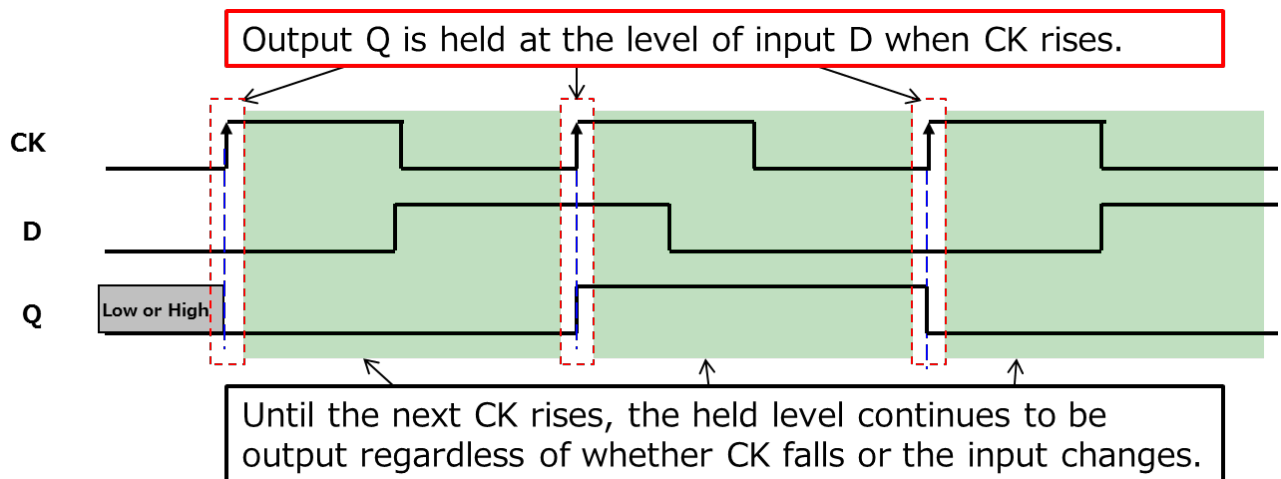

Figure 2.34 Timing chart and output image
In the case of a product composed of an input (D), a clock (CK), and an output (Q), the input (D) is held and the same signal is output when the clock (CK) rises. Until the next rise edge of clock (CK) input, output (Q) does not change even if input (D) changes. When the clock (CK) is not rising, the input (D) held by the immediately preceding rising clock (CK) continues to be output. Shown in Figure 2.34 is a timing chart. Some products have CLR and PR inputs that can initialize the internal hold signal.